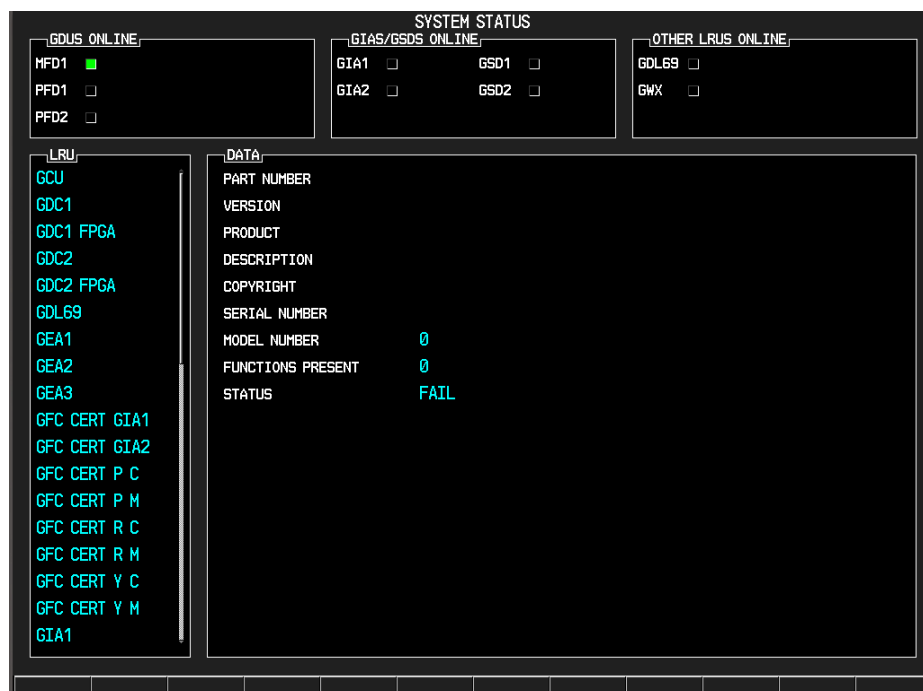

Figure 8-1. System Status Page (Configuration Mode)
1. Start the G1000 in configuration mode. The system status page displays a list of LRUs in the LRU window (Figure 8-1).